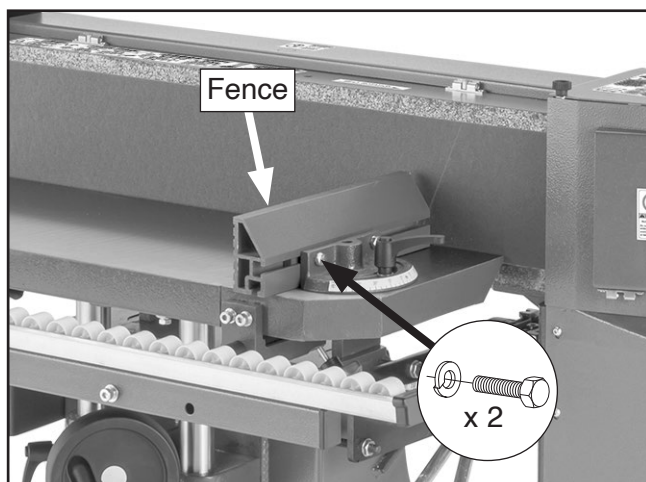

Figure 45. Location of miter fence and securing fasteners.
6. Remove (2) hex bolts and lock washers shown in **Figure 45** to remove fence from miter stop.